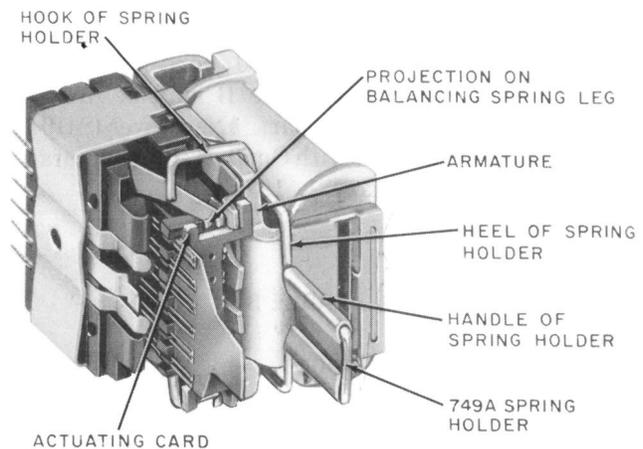

Fig. 6—Positioning 749A Spring Holder for Removal of Actuating Card
- (3) To remove the actuating card, use the 749A spring holder as follows (refer to Fig. 6). Place the hooks of the 749A tool on the legs of the balancing spring directly behind the two projections on each leg. Press the 749A tool against the balancing spring legs to disengage the legs from the actuating card. Increase the pressure until the heels of the 749A tool can be positioned against the armature as shown in Fig. 6. Slide the hooks of the 749A tool along the spring legs until the handle of the tool is against the armature. Carefully disengage the card from the armature clamp plate and remove the card from the relay.